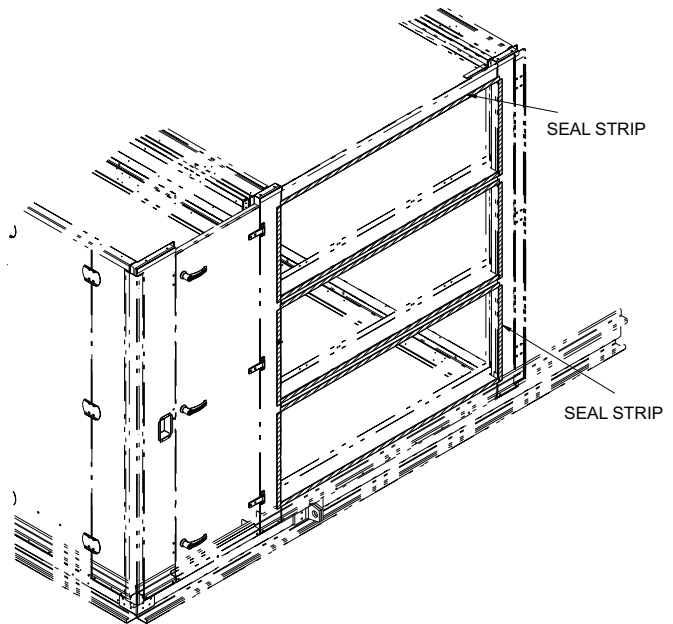

Fig. 18 — Seal Strips
3. Apply seal strip to the unit. Strip should extend around entire openings (see Fig. 18).